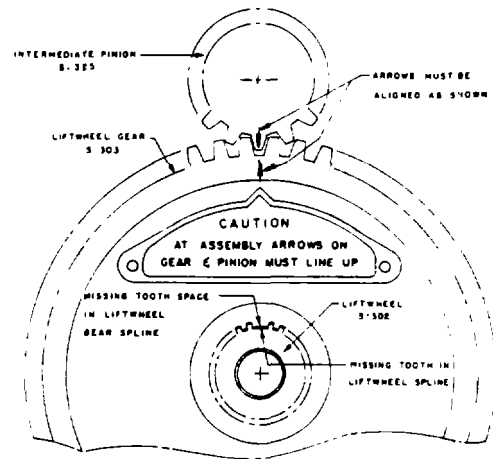

FIGURE 19.
1. Assemble liftwheel gear to liftwheel. NOTE: These parts have their splines keyed in such a way that they will go together, only one way. See Figure 19.
3. Check operation of gear train by rotating the pinion four (4) complete revolutions; liftwheel gear will turn one (1) complete revolution and the arrows will again be aligned as shown. If the arrows do not align or there is binding between the gear teeth, repeat the above steps.